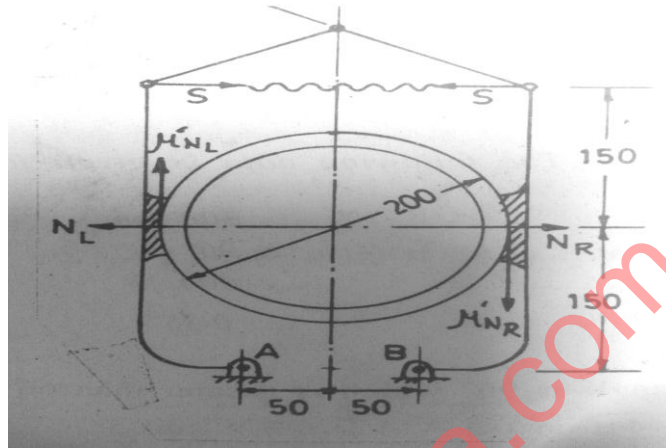

Figure No.1
- (b) The brake as shown in fig.No.1 has the following specifications: 09